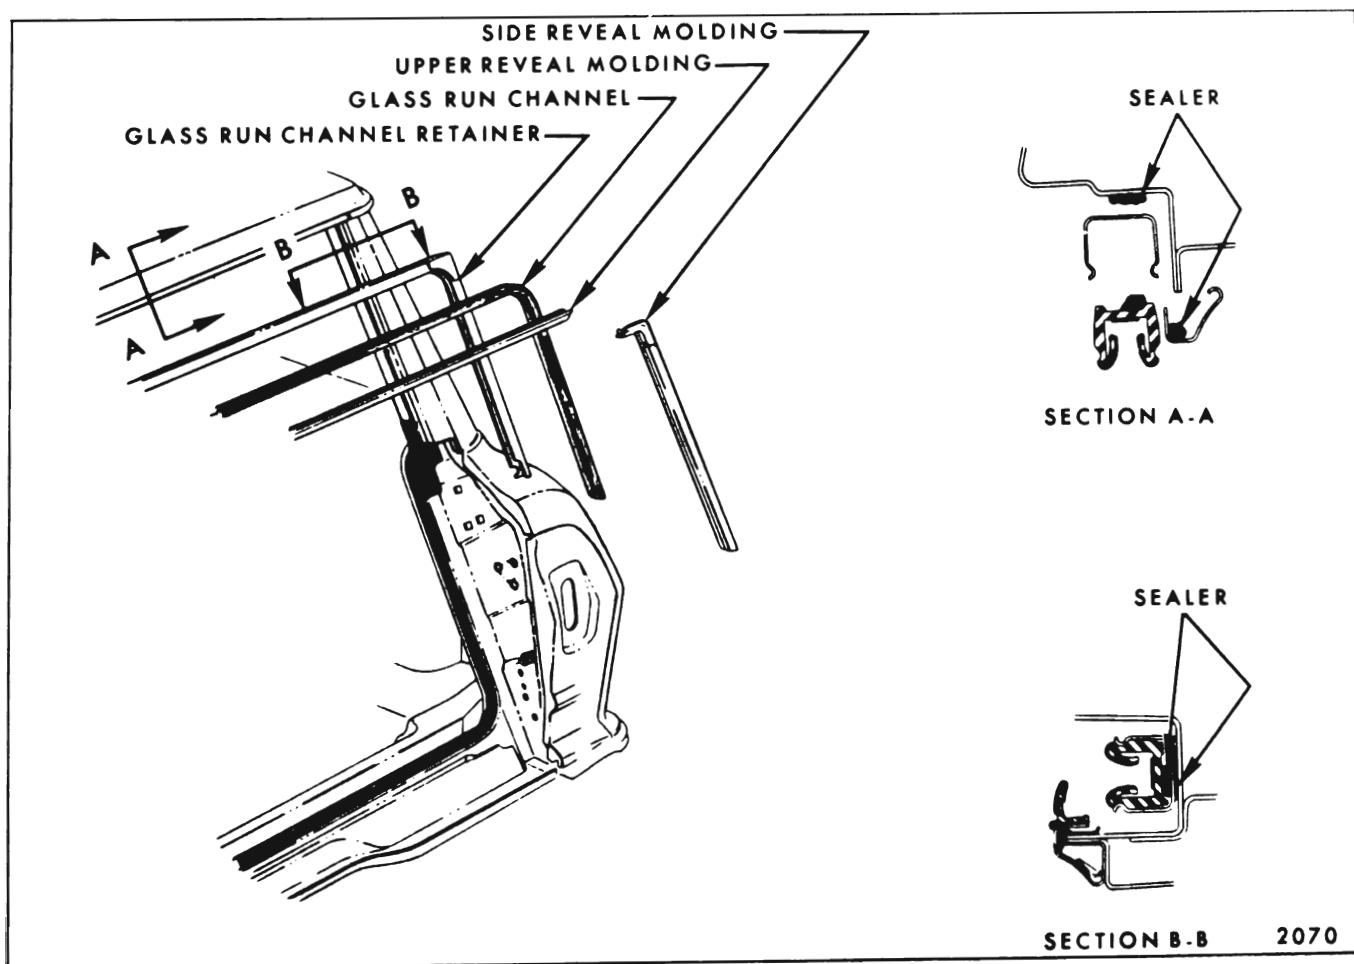

Fig. 9-26—Tail Gate Opening Sealing - "X" Body Styles
4. Prior to installation of either run channel or retainer, seal contact areas with medium bodied sealer as depicted in Sections "A-A" and "B-B" in Figure 9-26.